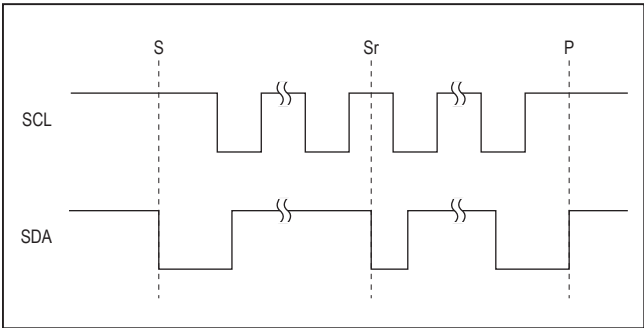

Figure 7. I2C START, STOP and REPEATED START Conditions
When writing to the MAX14748 using I2C, the master sends a START condition (S) followed by the MAX14748 I2C address. After the address, the master sends the register address of the register that is to be programmed. The master then ends communication by issuing a STOP condition (P) to relinquish control of the bus, or a REPEATED START condition (Sr) to communicate to another I2C slave. See Figure 7.